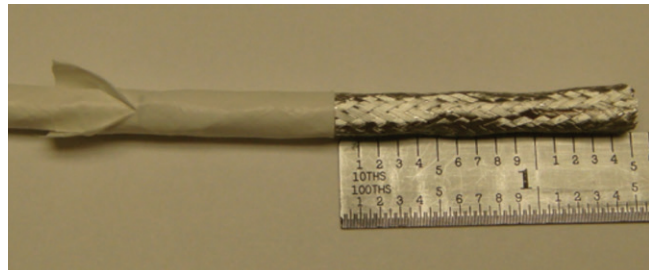

Figure 12: Exposing the braid
5. Using needle-nose pliers, gently pull the outer jacket down the cable until you have exposed approximately 1.5 inches of braid (Figure 12).